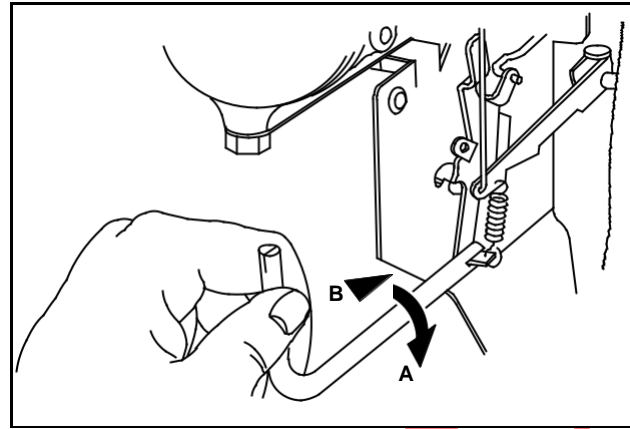
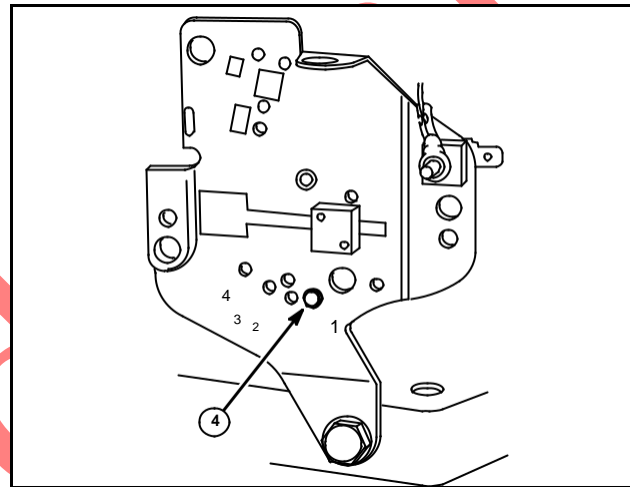

Fig. 29
Fig. 30
3. Use Tool #19229, Tang Bending Tool, to bend spring anchor tang to obtain the proper TOP NO LOAD RPM, Fig. 29. For engines using Top Speed Limit Screws, adjust tang to 4000 RPM. Top Speed Limit screw must be removed while adjusting tang.
NOTE: Refer to Figs. 29 and 30 to identify the type of control. Then refer to Table No. 2, Page 28 (Fig. 29) or Table No. 3, Page 28 (Fig. 30) to find correct hole to use after adjusting governor tang, Step 3, and installing Top Speed Limit Screw (4).